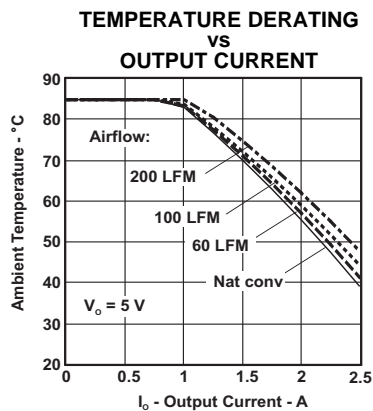
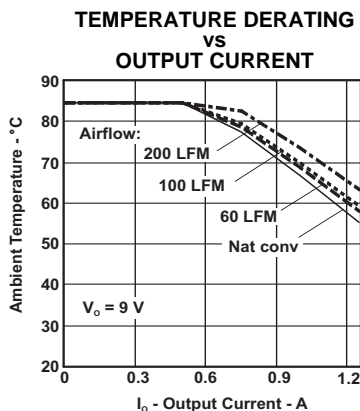
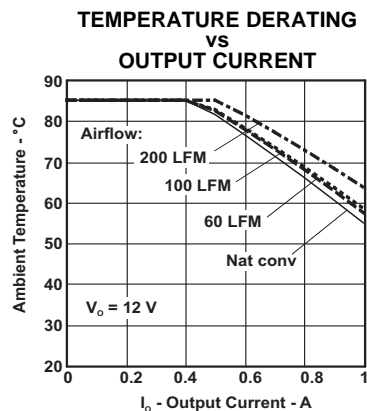
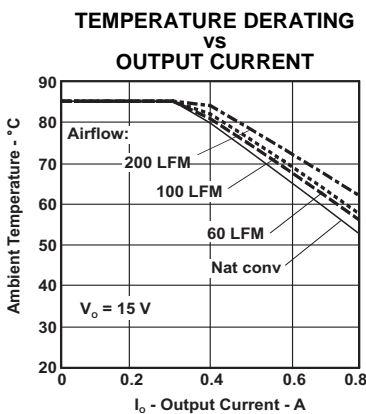

Figure 4.
Figure 5.
Figure 6.
Figure 7.
- (2) The Safe Operating Area curves represent the conditions at which internal components are at or below the manufacturer's maximum operating temperatures. Derating limits apply to modules soldered directly to a 100 mm x 100 mm double-sided PCB with 2 oz. copper. Applies to Figure 4, Figure 5, Figure 6, and Figure 7.